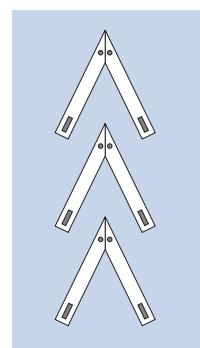

Figure 3
- The belt is supported over the entire width by a V-shaped arrangement of the runners (figs. 3 + 4). This spreads the wear and tear evenly and means heavy loads can be applied.